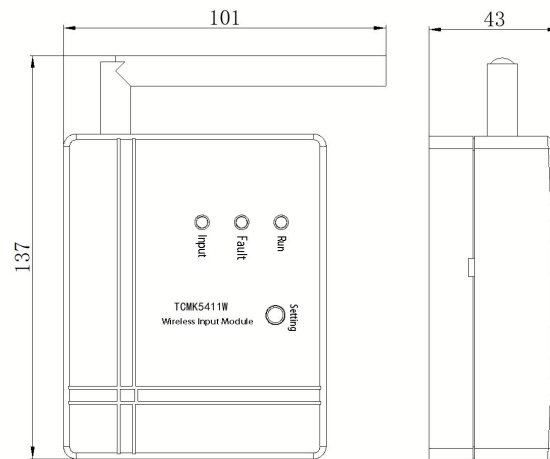

Fig. 1 Outline diagram of the module
1. The outline diagram of the module is shown in Figure 1 :